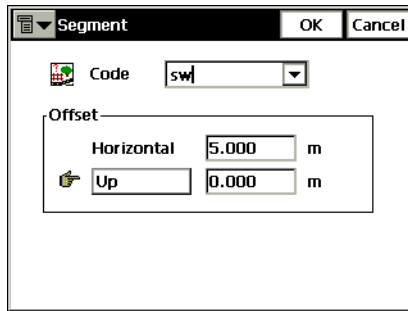

Figure 4-28. Segment
3. To add a segment to the template, tap the **Add** button and in the *Segment* screen enter the parameters of the segment (code and offset) (Figure 4-28 on page 4-23). Tap **OK**. The added segment will be attached after the last segment in the list.